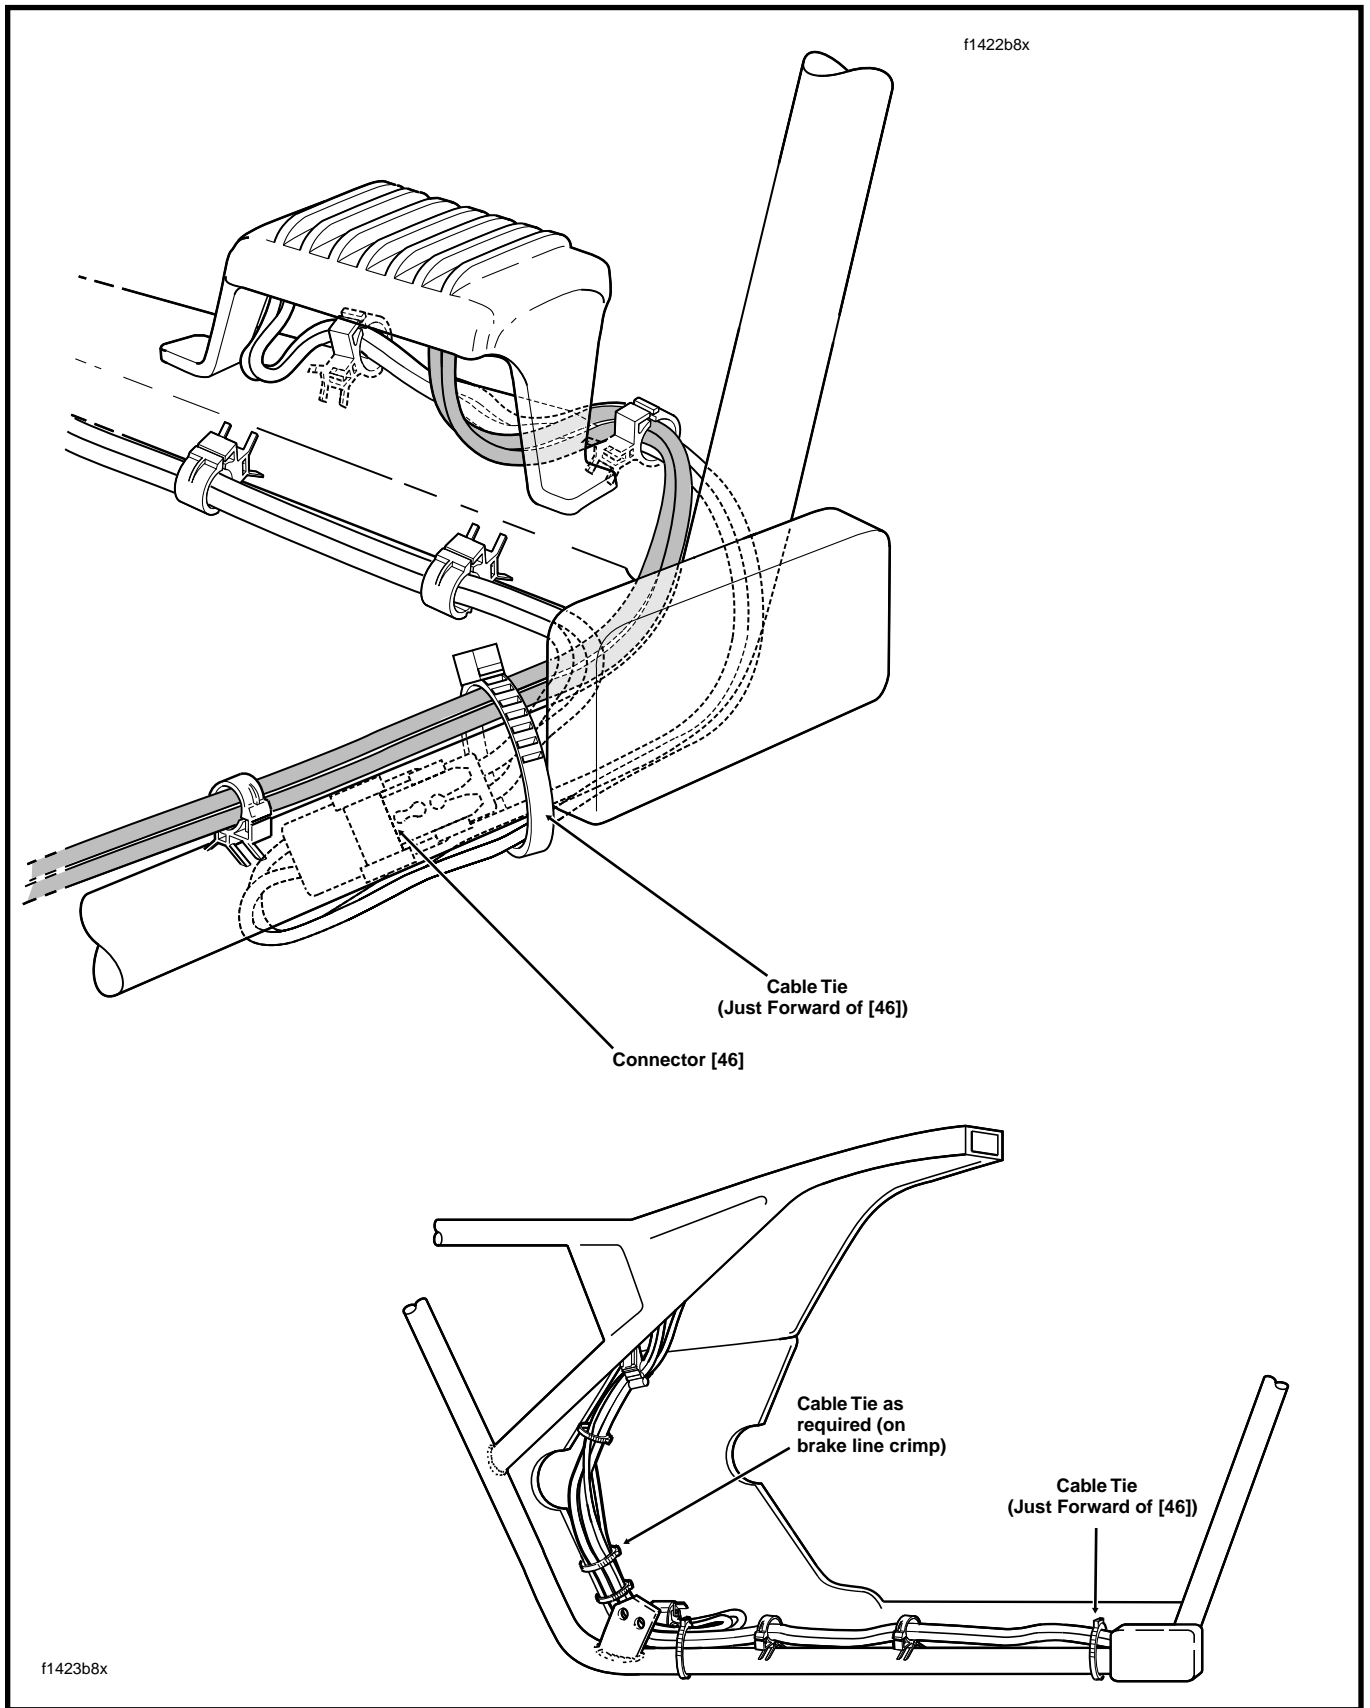

Figure 2. Voltage Regulator Cable Routing
1. See Figure 2. Inspect the voltage regulator wiring harness routing forward of connector [46]. Make sure wiring harness is tucked up close to frame tube to prevent possible damage from road debris or powertrain movement. Inspect voltage regulator wiring harness routing behind connector [46]. There is a machined surface on the bottom of the crankcase under the cam cover just to the rear of the connector. Make sure sufficient clearance exists between sharp edge of machined surface and voltage regulator wires. Cable tie top wires (by machined edge) and four lower wires forward of connector to frame tube as shown in upper illustration of Figure 2.